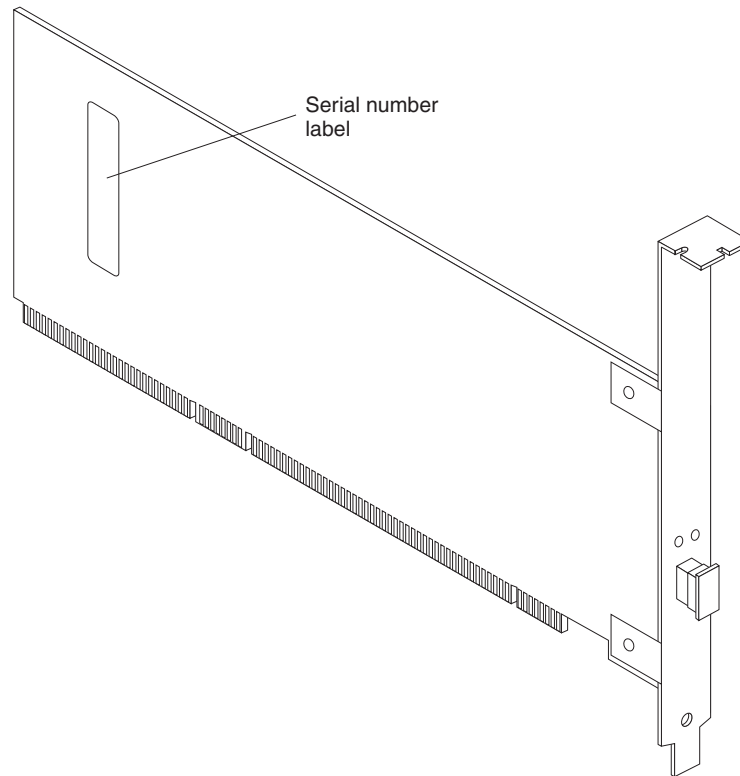

Figure 1. FASiT FC2-133 Adapter serial number label
- Write down the serial number of the FASTT FC2-133 Adapter. Each adapter has a unique serial number. If the nonvolatile random access memory (NVRAM) (also referred to as NOVRAM) is damaged, the system prompts you for the FASTT FC2-133 Adapter serial number. Figure 1 on page 3 shows the serial number label location.